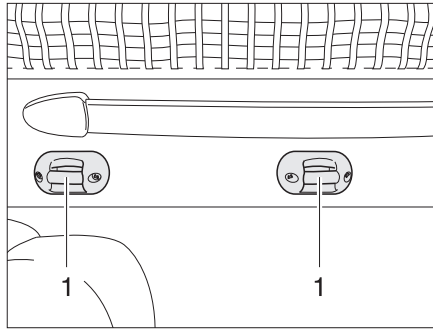

Fig. 174 Access ladder holder
- Hook the access ladder to the pull-down bed by attaching both brackets into the U-bolts (Fig. 174,1).